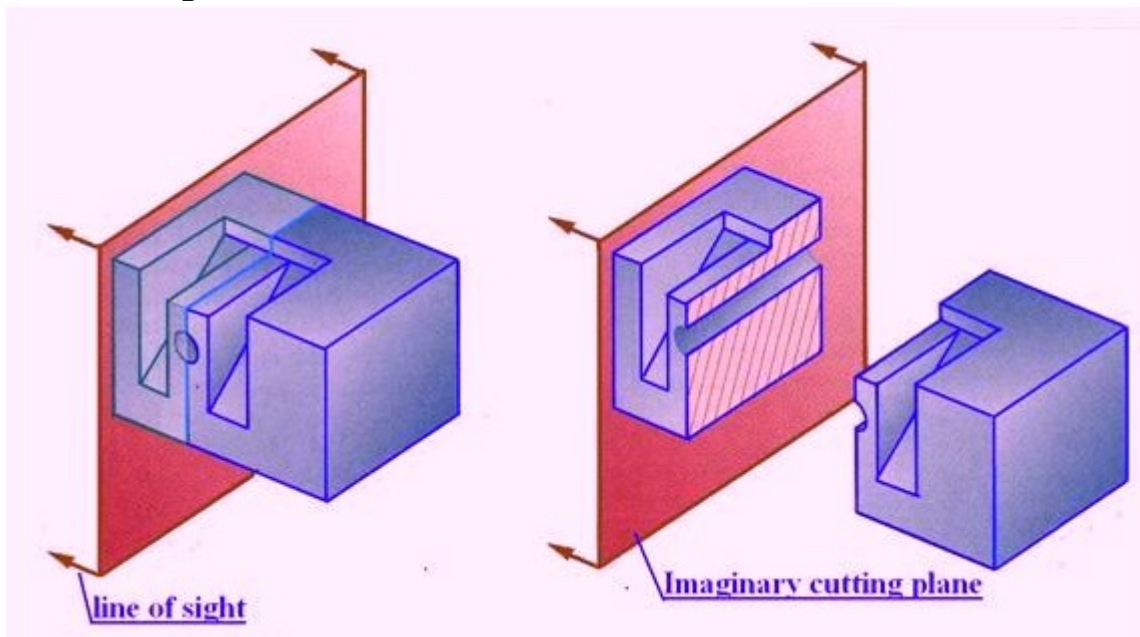

Figure 1. Illustrates a full Section view
- (a) Full section view, where the section plane go completely through the object. Example shown in figure 1.